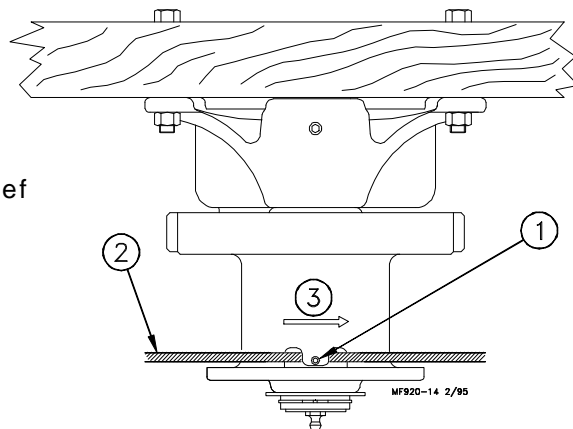

Figure 7. Winch Cable Installation (End View)
4. Route the cable through the winch drum relief located near the bottom of the drum. Tighten the set screw to anchor the cable to the drum. See Figure 7.